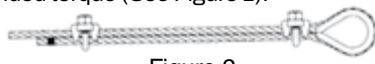

Figure 2
2. When two clips are required, apply the second clip as near the loop or thimble as possible. Use torque wrench to tighten nuts evenly, alternating until reaching the recommended torque. When more than two clips are required, apply the second clip as near the loop or thimble as possible, turn nuts on second clip firmly, but do not tighten. (See Figure 2)